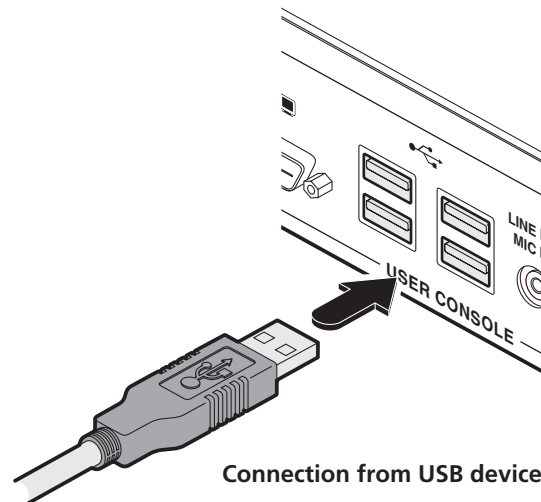

Figure 3-17. Connecting a USB device to the remote unit.
- 1 Connect the lead from the device to any of the four USB sockets on the rear panel of the ServSwitch Agility unit. See Figure 3-17.